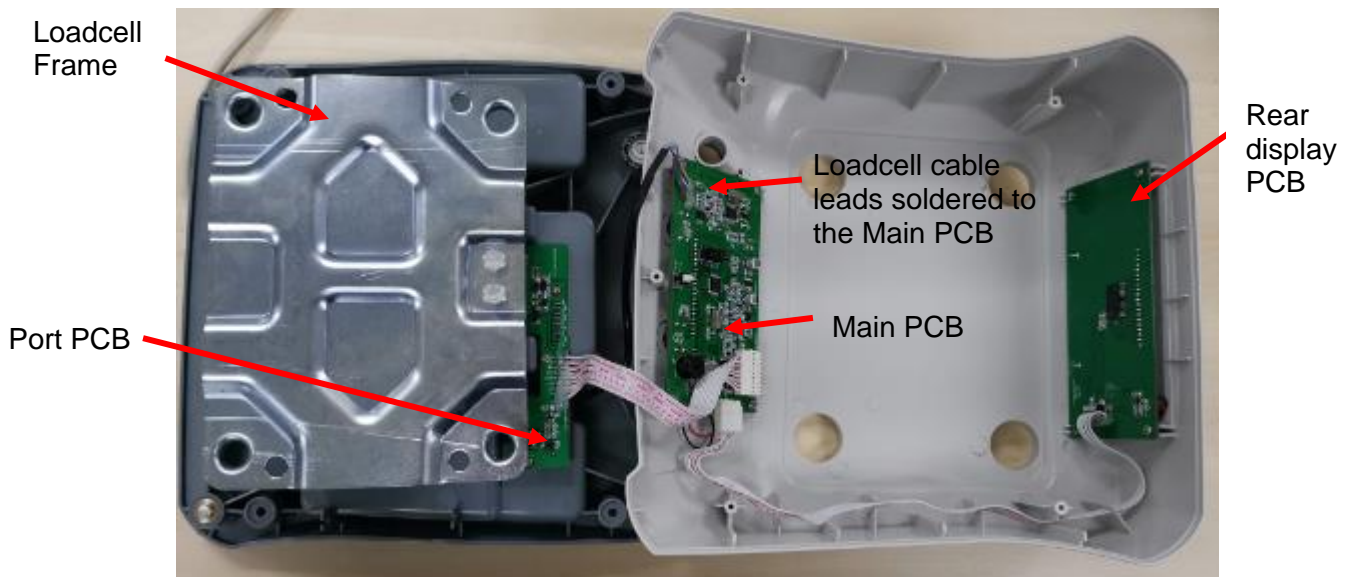

Figure 3-1 Top and Bottom Housings: Approved Model.
1. Disconnect the Cable connecting the Main PCB to Rear Display PCB. (See Figure 3-1.)